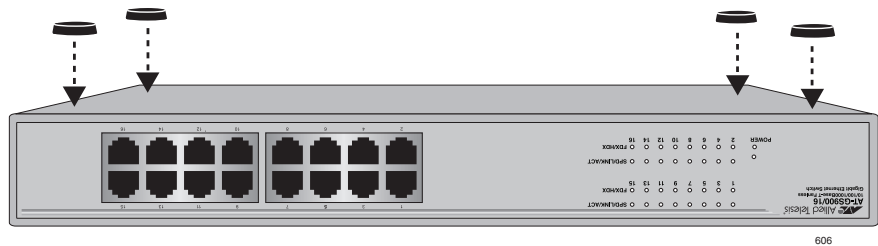

Figure 6. Attaching the Rubber Feet
2. Attach the four self-adhesive rubber feet to the bottom of the switch, as shown in Figure 6.